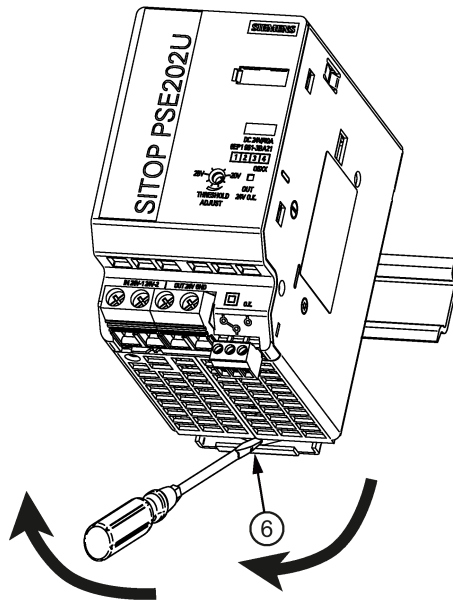

Figure 3-2 Mounting/removal
To remove, pull up the slider ⑥ using a screwdriver (see Figure 3-2 Mounting/removal (Page 55)) and disengage the device at the bottom edge of the standard mounting rail. Then you can remove the device from the upper edge of the standard mounting rail.